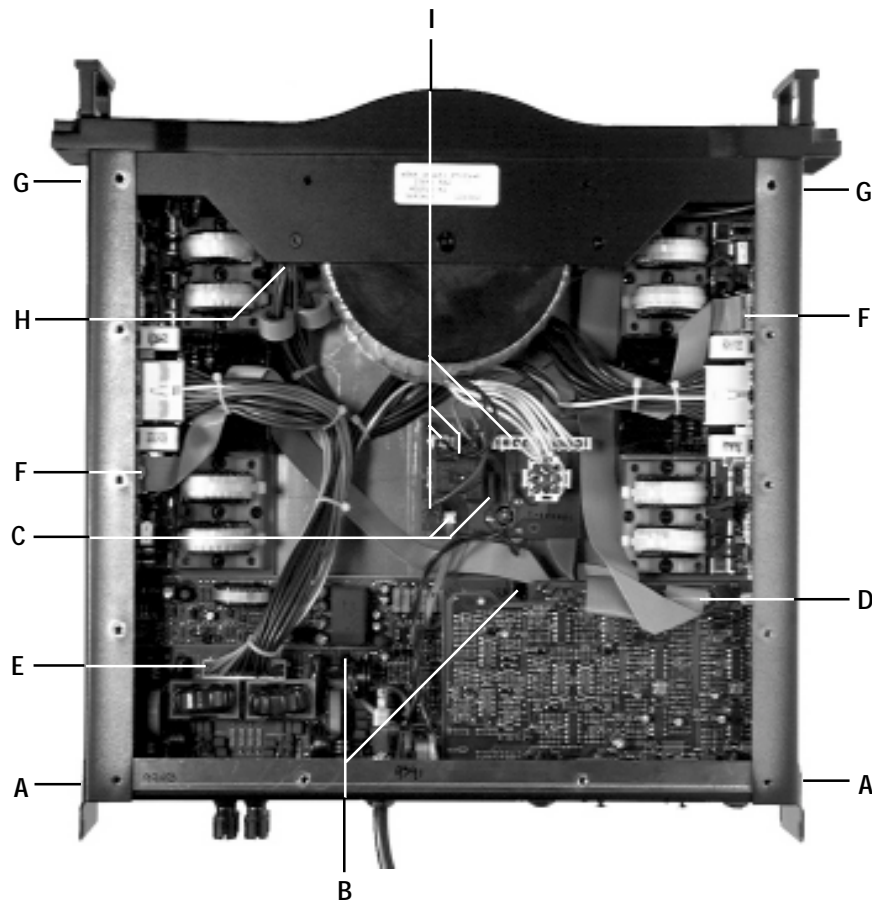

Figure 5.2 Bottom View
3. Using a TX15 bit, remove the two screws on each side of the amp that hold the rear supports. See Figure 5.2. **Item A**
5. Remove the two TX15 screws on the Main PWA. See Figure 5.2. **Item B**
6. Unplug the black and white wires (P8 & P9) and the ribbon cable (P4) from the Control PWA. See Figure 5.2. **Item C**
7. Unplug the P1 ribbon cable from the Input PWA. See Figure 5.2. **Item D**
8. Unplug the main wiring harness from the Main PWA. See Figure 5.2. **Item E**
9. Remove the necessary tie wraps and unplug the ribbon cables from the Output PWAs. See Figure 5.2. **Item F**
2. Using a TX 15 bit, remove two screws on each side of the amp located directly behind the rack ears. See Figure 5.2. *Item G*
4. Unplug the main wiring harness from the Bridge PWA. See Figure 5.2. *Item H*
5. Remove the P1 ribbon connector from the Input PWA. See Figure 5.2. *Item D*
6. Remove the P5 and P6 transformer wire connectors, and P10, P11, P12 and P13 switch wires from the Control PWA. See Figure 5.2. *Item I*